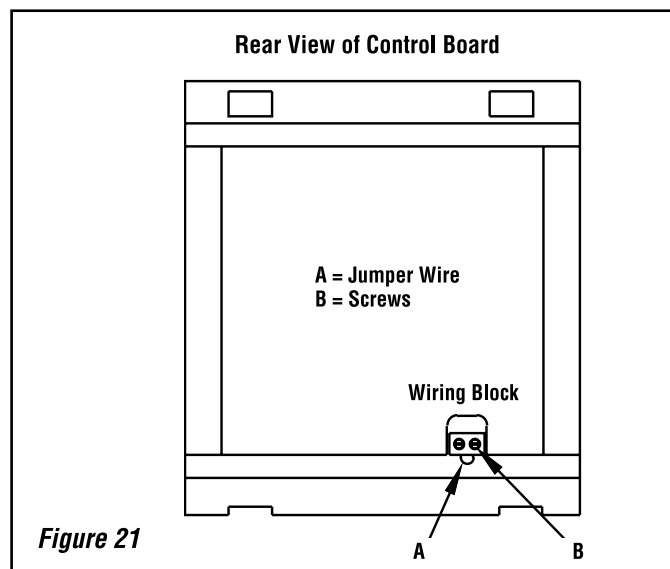

Figure 21
- 1) Unplug the stove from the electrical outlet. Open the right side door and lift out the control board from its retaining brackets. Locate the light green wiring block at the bottom back of the board (see **Figure 21**), loosen the two screws B at the back of the block and remove the U shaped jumper wire A protruding from the block.